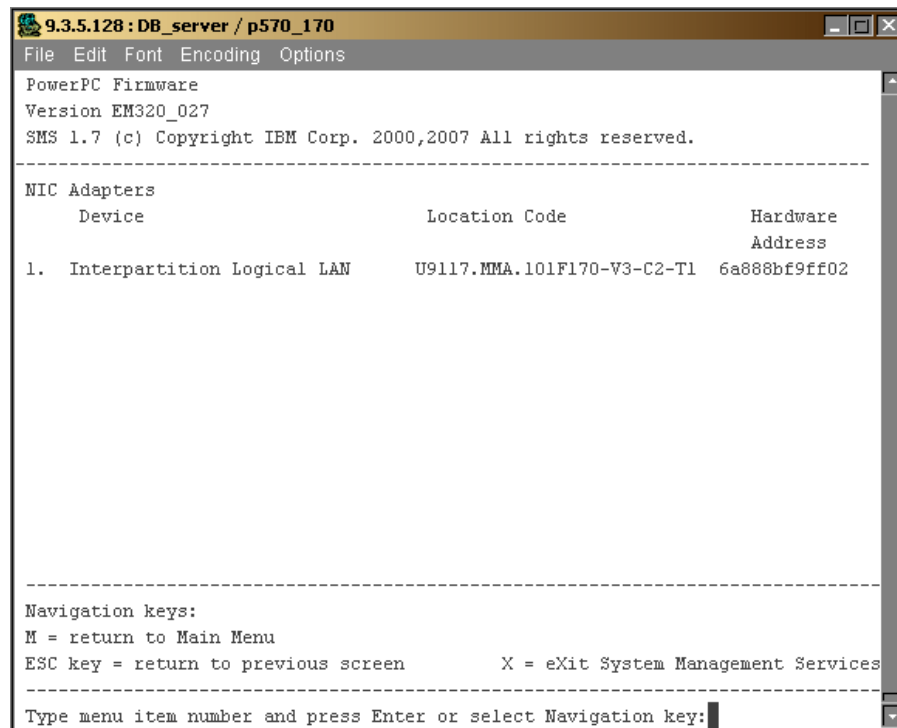

Figure 13-18 Selecting the network adapter for remote IPL
4. Choose option **1**, as shown in Figure 13-18.